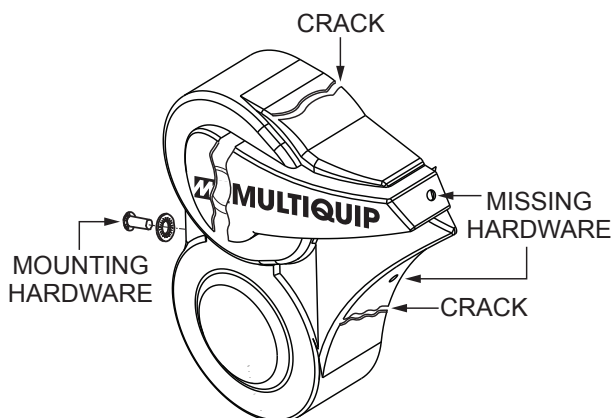

**Figure 22. V-Belt Inspection**
1. Inspect the V-belt (Figure 22) to determine if it is frayed, peeling, full of tiny cracks, has pieces of rubber missing, or is otherwise damaged.
2. Inspect the V-belt (Figure 22) to determine if it is oil-soaked or glazed (a hard, shiny appearance on the sides of the belt). Either of these conditions can cause overheating of the belt, which may weaken the belt and increase the danger of it breaking.